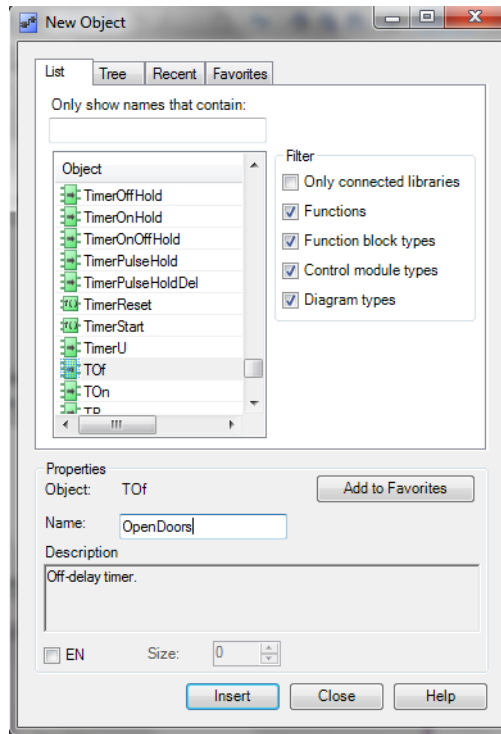

Figure 36. Insert TOF from New Object Dialog
4. After selecting **TOF**, enter **OpenDoors** in the Name field as shown in Figure 36.